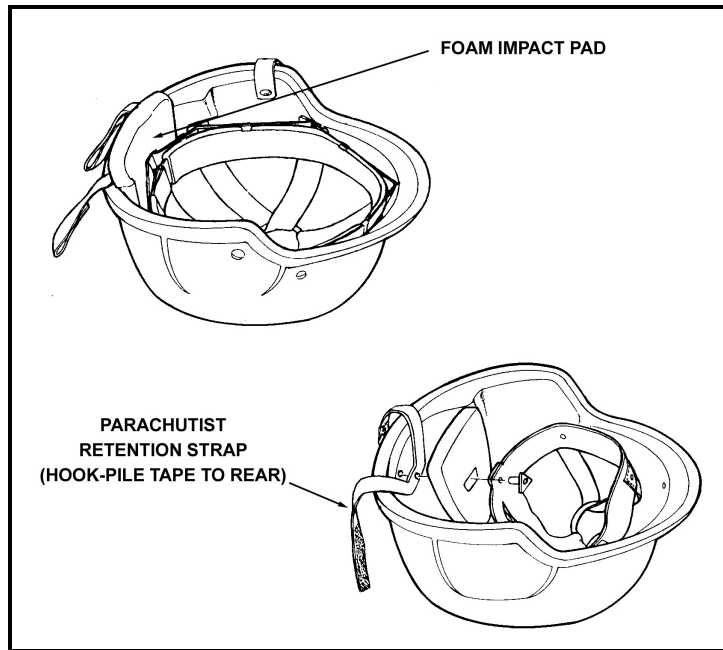

Figure 2-7. PASGT helmet with retention strap and foam impact pad.
a. **Parachutist Helmet Modifications.** The helmet is modified for airborne operations by adding a parachutist retention strap and a foam impact pad (Figure 2-7). These items provide maximum safety and stability. Also, the PIL is inserted to further protect the jumper's head during PLFs.